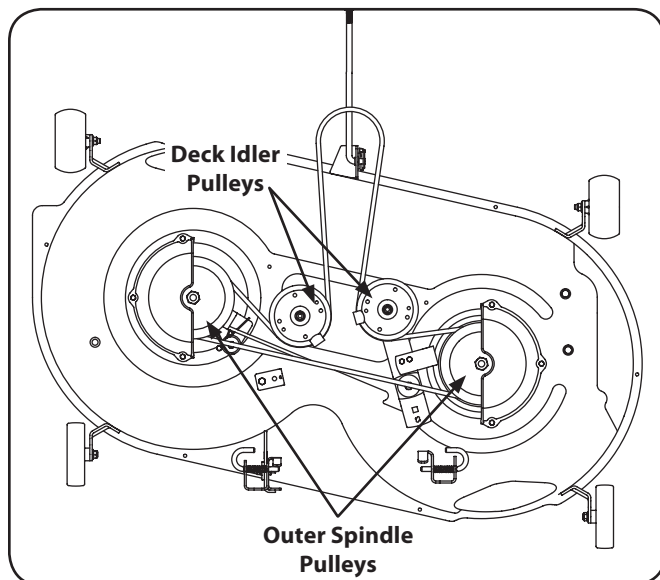

Figure 7-12
7. **On 46" Decks:** To place the new belt begin by routing the belt around the two outer spindle pulleys as shown in Fig. 7-12.
8. Then route the belt around the two deck idler pulleys as shown in Fig. 7-12.